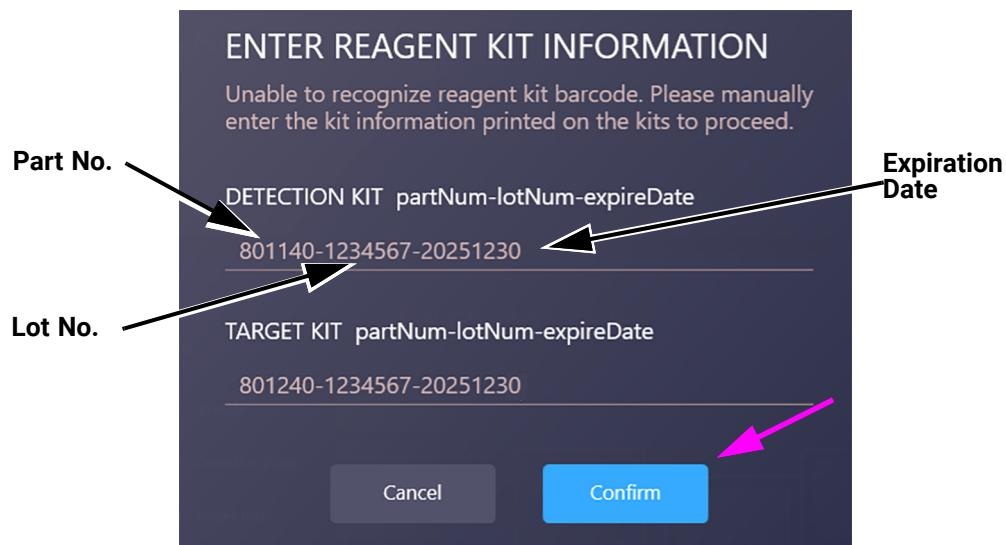

Figure 4-20. Enter Detection and Target Kit Information
If the barcode scan fails again, you are requested to manually enter the reagent kit information (see Figure 4-20).
10. After entering all of the reagent kit information, select the **Confirm** button. The instrument indicates that it is ready to process the run(s). See Figure 4-20.